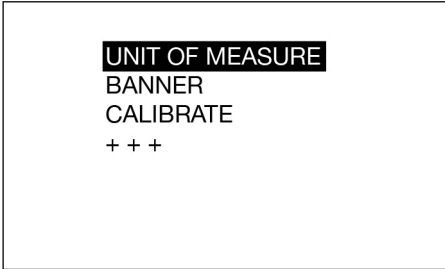

FIG. 18
- After selecting END the following screen (FIG. 18) displays.